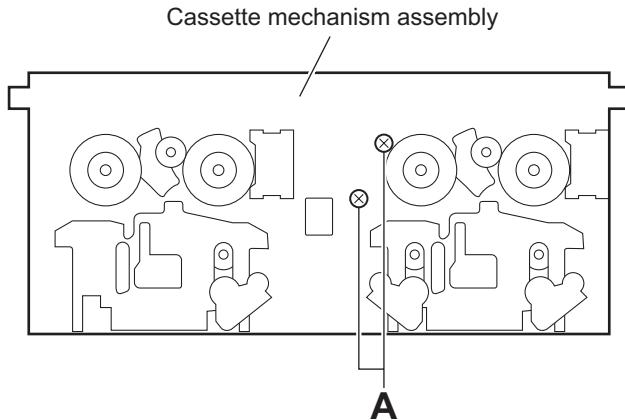

Fig.1
#### 3.3.1 Removing the main motor and replacing the main belts (See Figs.1 and 2)
- From the front side of the cassette mechanism assembly, remove the two screws **A** attaching the main motor. (See Fig.1.)